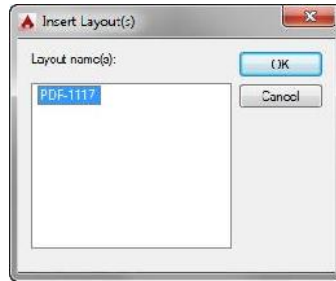

FIGURE 14.18: Selecting the layout to use as a template
4. The Insert Layout(s) dialog box opens, and it lists each of the layout tabs in the selected template drawing. Choose the PDF-1117 (PDF-A3) option shown in Figure 14.18, and then click OK.